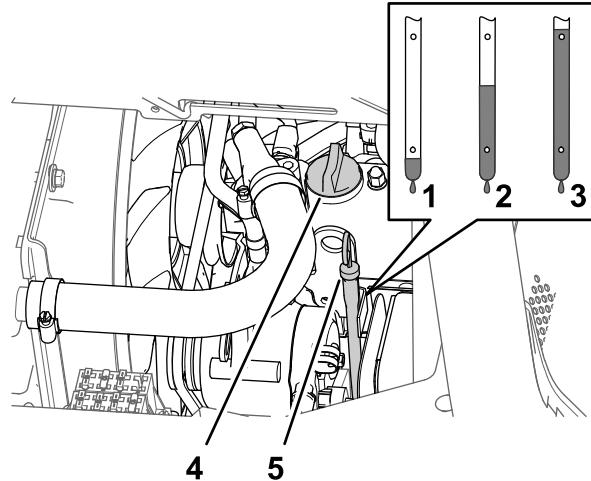

Figure 80
5. Remove the oil-filler cap from the filler neck of the valve cover of the engine (Figure 80) and slowly pour approximately 80% of the specified amount of oil into the filler neck.
6. Remove the dipstick and check the oil level in the engine (Figure 80).
7. Slowly add additional specified oil to bring the oil level to the full mark on the dipstick (Figure 80).
8. Install the oil-filler cap into the filler neck and the dipstick into the dipstick tube (Figure 80).